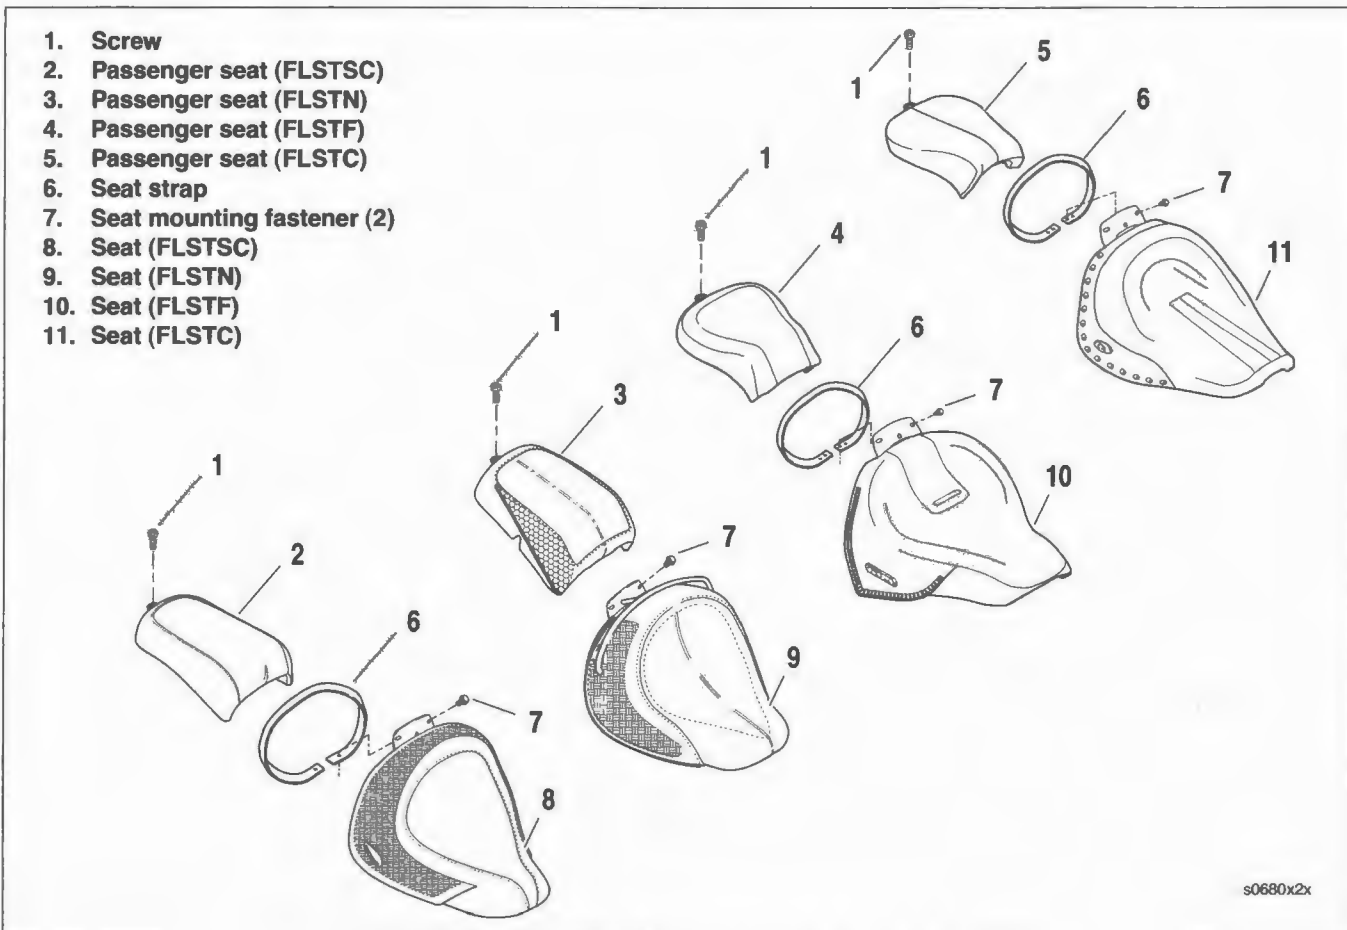

Figure 2-161. Seat: FLSTSC/FLSTN/FLSTF/FLSTC
See Figure 2-161. The passenger seat attaches with a single screw (1) at the rear and engages the seat mounting fasteners (7) at the front.